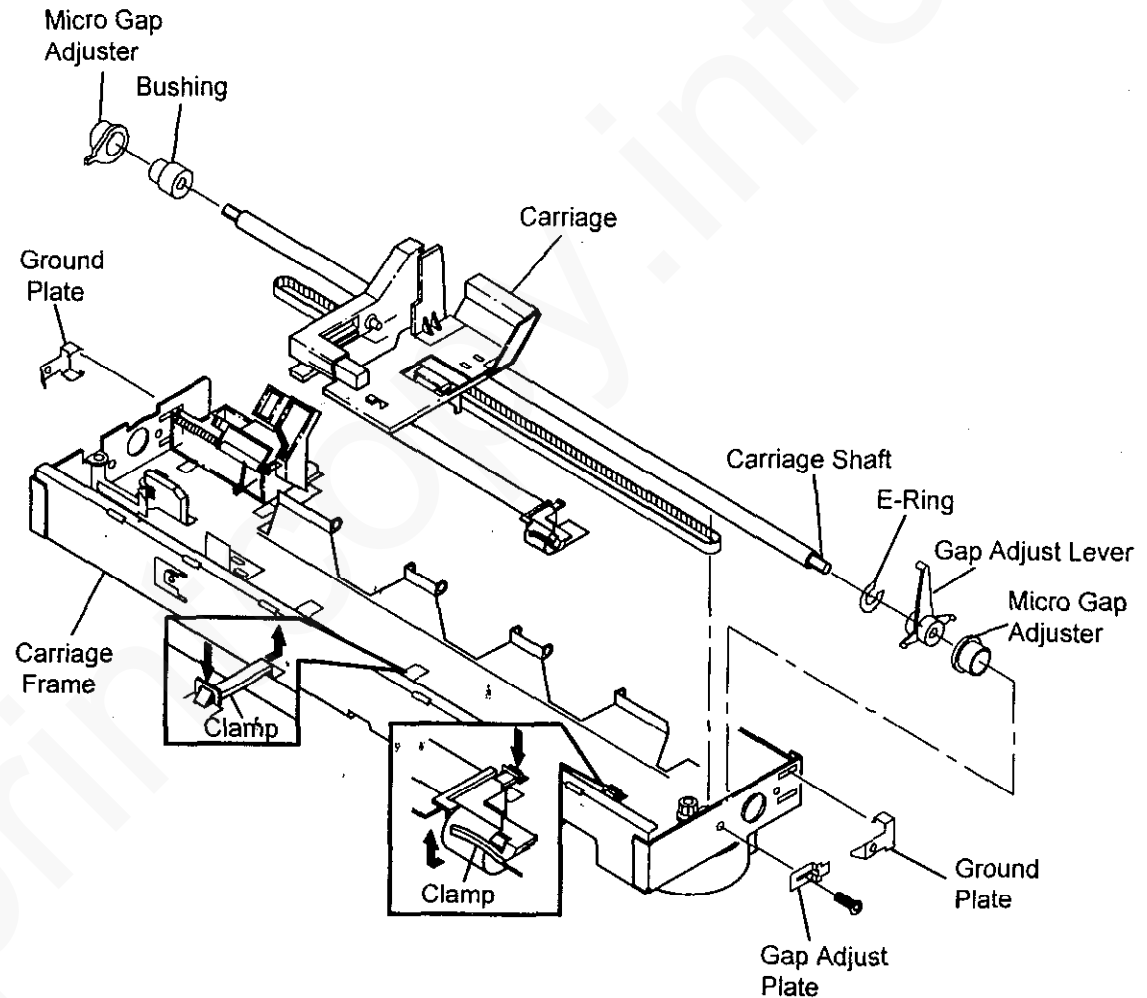

Figure 1 Removing and Replacing the Carriage
4. Reinstall the Carriage (Figure 1).
- f. Reinstall the Ground Plates (2).